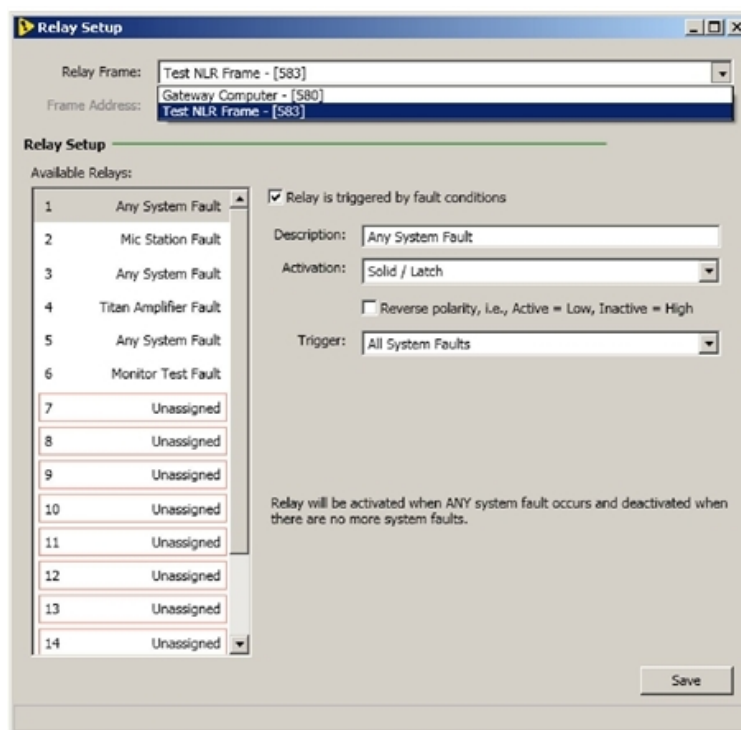

Figure 16-7: Relay Setup Window
The Relay Setup window allows one to set up relays to trip when fault and clear conditions occur. Figure 16-7 shows a typical Relay Setup window. The window has two parts. The top part allows selection of a relay device, and the bottom part, grouped under the **Relay Setup** heading, allows setting up individual relays on the frame.
- **All System Faults** (see Figure 16-7) – Trip the relay on any fault in the system. This would be a “general fault” relay.